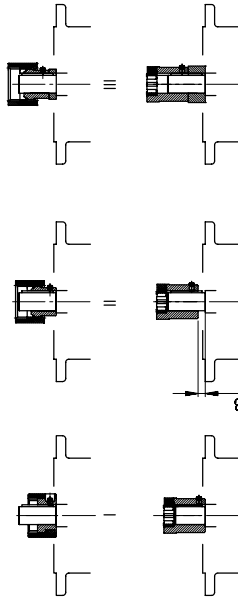

Figure 3-13: Fitting the coupling onto the motor shaft - various types of coupling
3. Tighten the coupling sleeve on the motor shaft in accordance with the motor manufacturer's instructions until it touches the collar. With motor sizes 90, 160, 180 and 225, any spacer bushes must be positioned between the coupling sleeve and the collar. With standard helical gear units, dimension B between the coupling sleeve and the collar must be observed (see Figure 3-13). Certain NEMA adapters require the adjustment of the coupling in accordance with the specifications indicated on the adhesive plate.
6. Mount the motor to the IEC /NEMA adapter, do not forget to fit the gear rim or the sleeve. (See Figure 3-13)